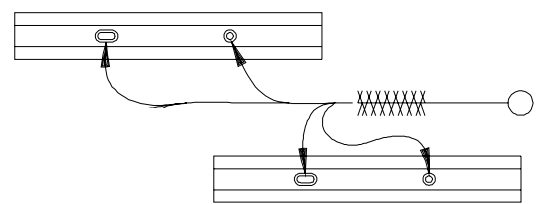

Figure 6-7 Clean beater shaft pin holes.
e. The beater shaft and the scraper blade pin holes as shown in figure 6-7.